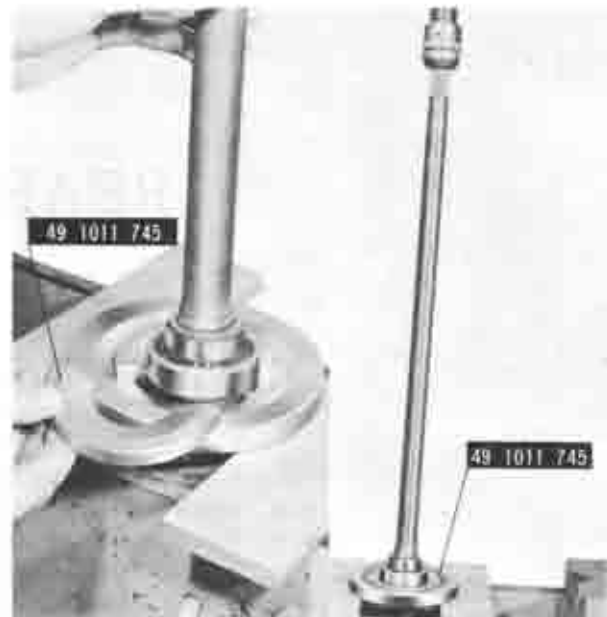

Fig. 9-3 Removing bearing and collar
2. Using the **bearing remover set** (49 1011 745), support the spacer and press the axle shaft out of the collar and bearing, as shown in Fig. 9-3.